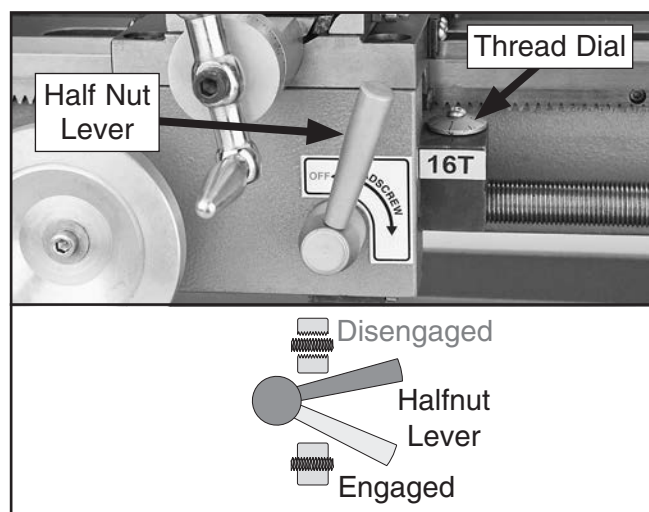

Figure 17. Half nut lever disengaged.
4. Disengage half nut with lever shown in **Figure 17**.